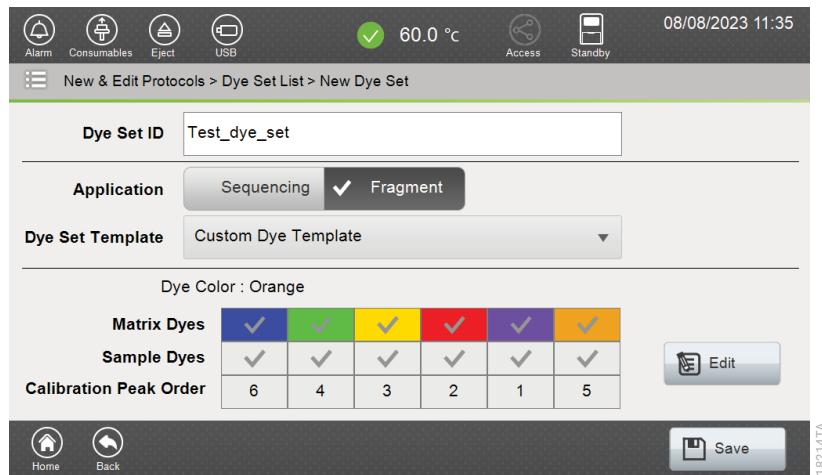

Figure 149. Saving the custom dye set in the 'New Dye Set' screen.
8. Confirm that the New Dye Set screen reflects the essential information for the custom dye set (Figure 149). Select **Save**.